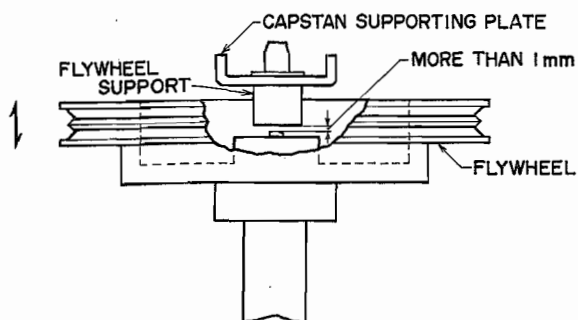

Fig. 21
11. FLYWHEEL VERTICAL LOOSE PLAY CONFIRMATION (See Fig. 21)
Confirm that as shown in the diagram in Fig. 21, the gap between the flywheel and capstan supporting plate is within 0.2 to 1 mm.